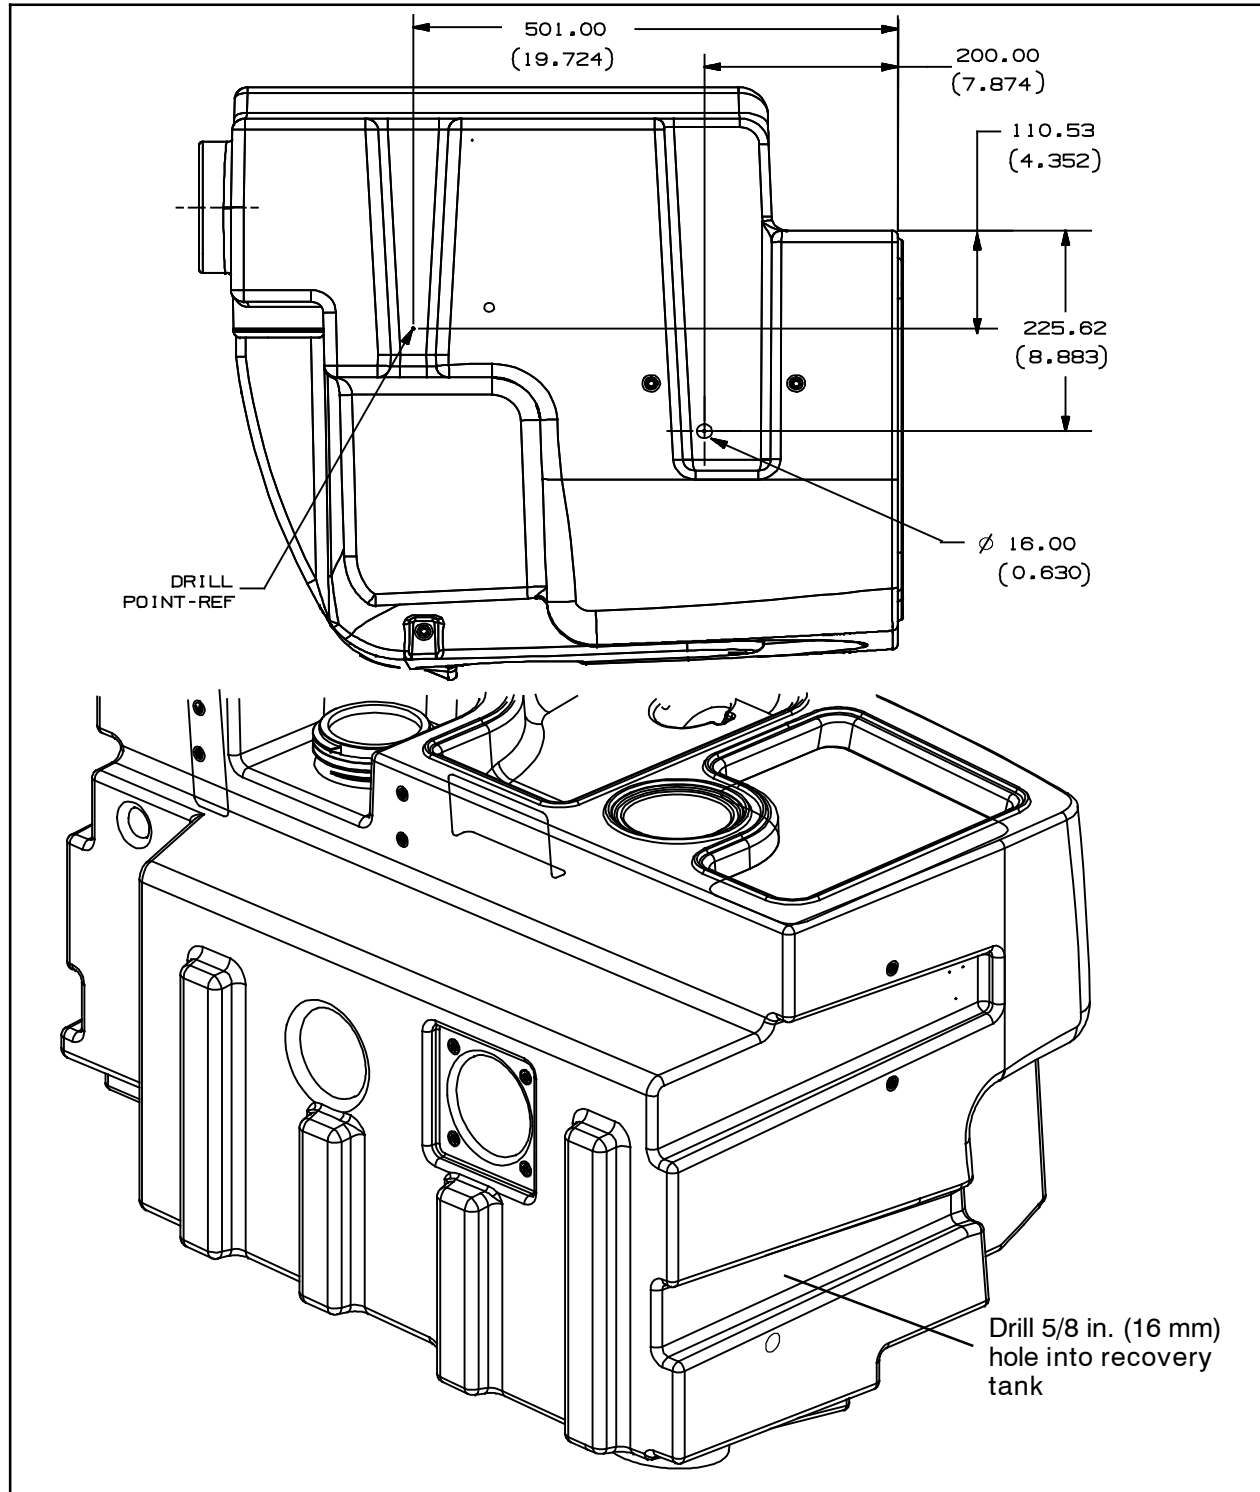

FIG. 6
7. Drill a 5/8 in. (16 mm) hole into the side of the recovery tank. (Fig. 6)
8. Remove the lock nut and gasket from the remaining new liquid level sensor (1).
9. Use the lock nut and gasket to install the liquid level sensor (1) and float switch protector bracket (2) into the 5/8 in. (16 mm) hole drilled into the side of the recovery tank. (Fig. 6)